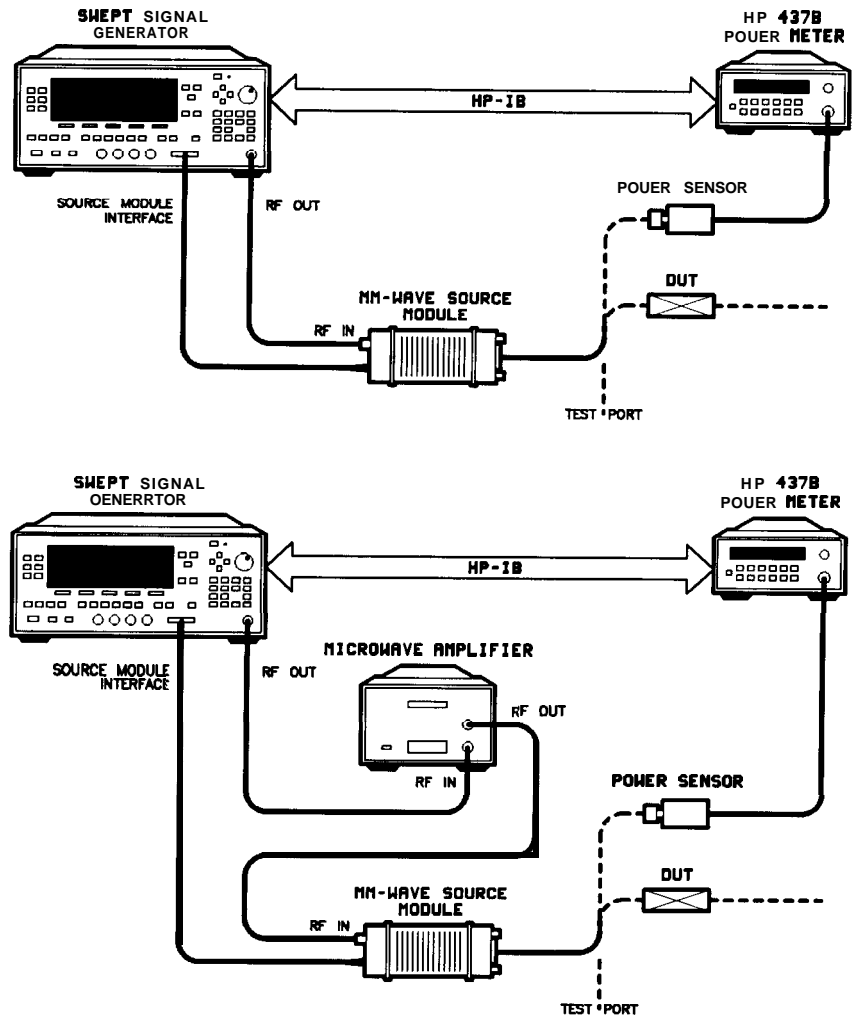

Figure I-20.
1. The equipment setup shown in Figure I-20 assumes that you have followed the steps necessary to correctly level the configuration. If you have questions about external leveling, refer to "Externally Leveling the Swept Signal Generator".